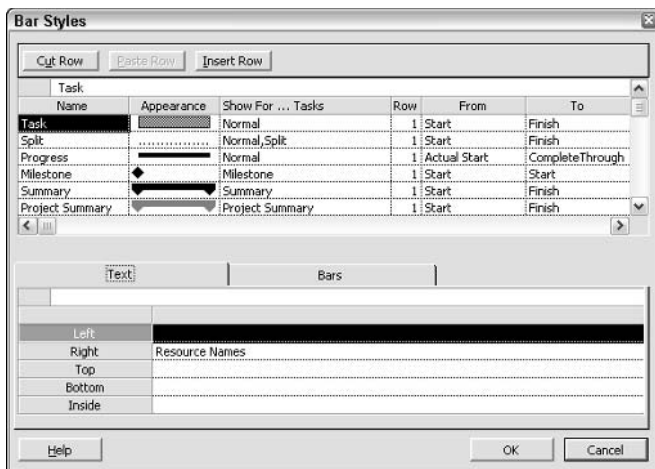

Figure 8-12: Be careful not to place too much information around taskbars or you'll create a cluttered, illegible Gantt Chart.
1. Click the Text tab to select the information that you want to display to the left, to the right, above, below, or inside the selected category of taskbar, as shown in Figure 8-12.